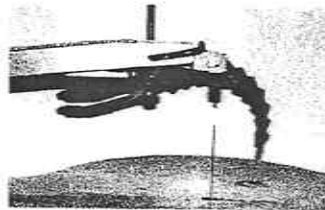

Fig. A-5
**Step #1** --- The front cam has two positions: the released position - for changing blades, (see fig. A-5) and the tensioned position - for sawing (see fig. A-6). The blade tension is adjusted with the cam-over handle on the back of the saw. Begin blade changing by releasing the front cam (black handle on the left side of the upper arm). By flipping the handle in the complete forward position, your blade tension will be released. Loosen the thumb screw on the upper blade holder to release the old sawblade.